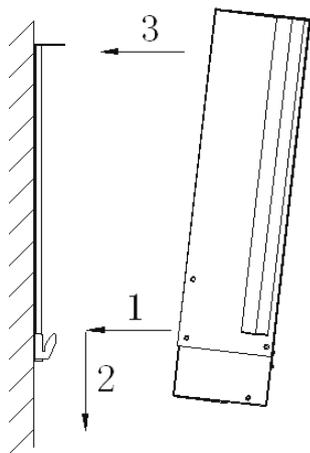

Figure 5
Step 5: Hang the appliance on the hooks at the bottom of the bracket and push the top of the appliance into the mounting bracket. Now fix the appliance to the mounting bracket by refitting the two M5×8 screws which were removed in step 1 (Figure 5).